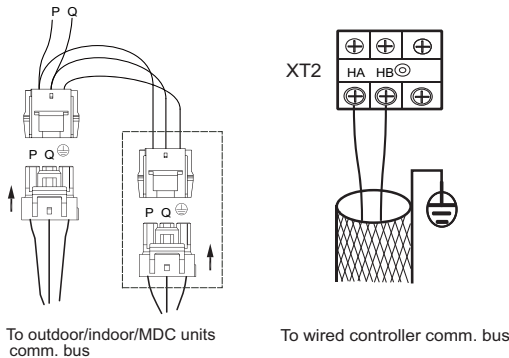

Fig. 15 — Communication Wire Connection
- See Fig. 15 for an example of communication wire connection.